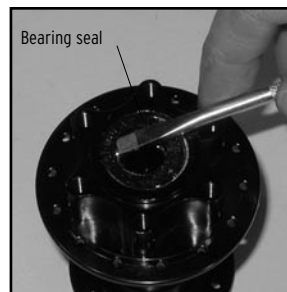

Fig. 6B
6. Gently insert a thin screwdriver blade between the shell shield (Fig. 5B) and bearing seal (Fig. 6B). Pry off the shell shields from both sides of the hub. Do not attempt to pry off both shield and seal at the same time as you may damage the bearing seal.
7. Gently pry off the bearing seals (Fig. 6B) from both sides of the hub.